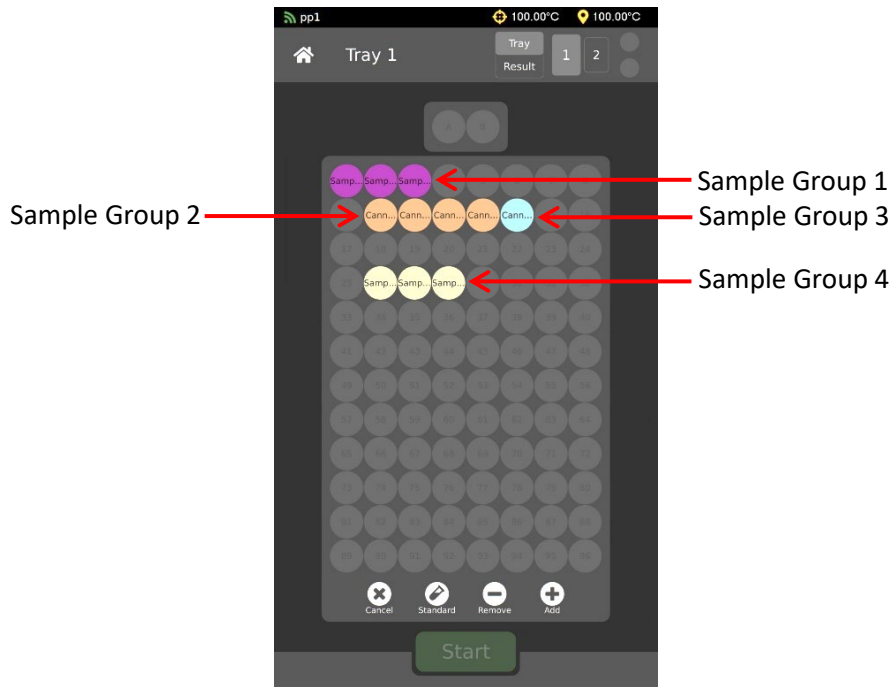

Figure 40: Multiple Sample Groups
- Repeat steps 1-3 for all sample groups in selected tray. The software will display each sample group in a different color for easy identification of groups. For example, in Figure 40 there are four sample groups in tray 1.